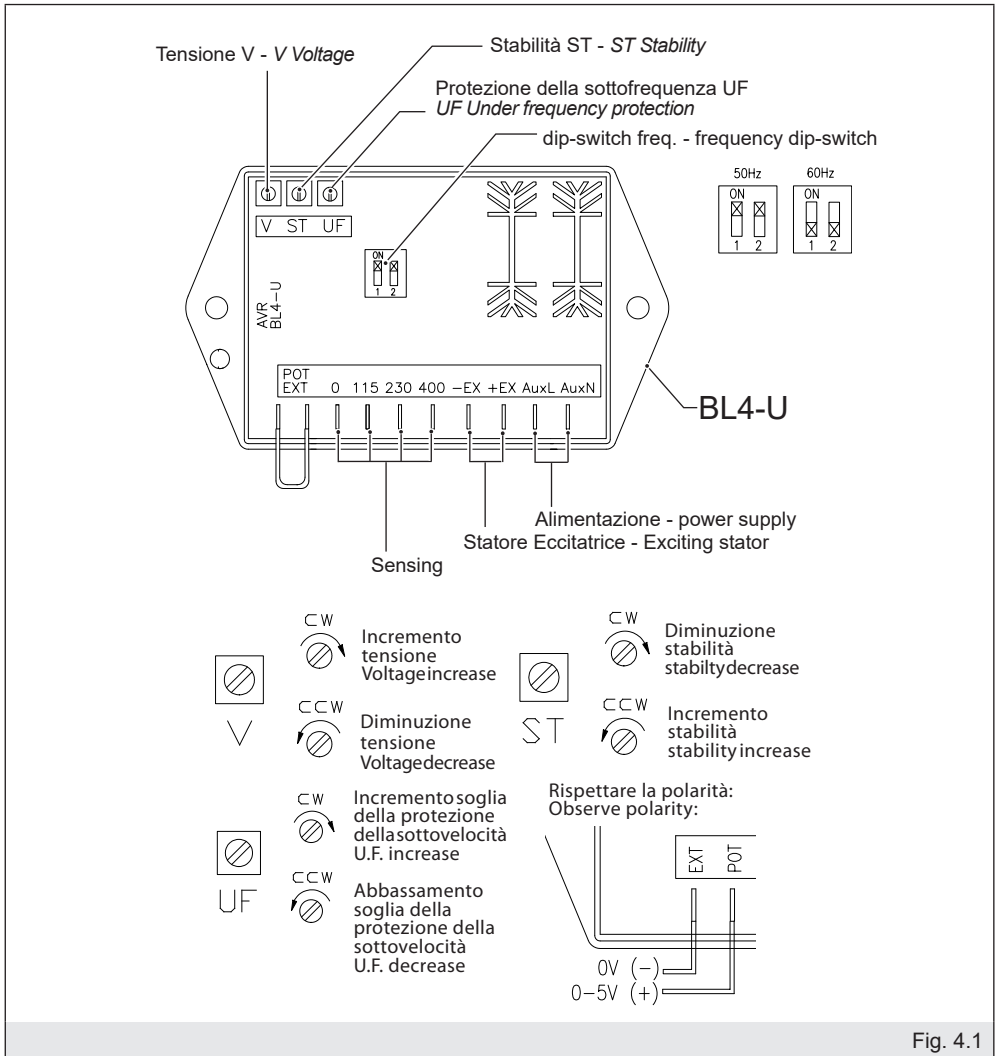

Fig. 4.1
2) Connection with controller or cosf regulator: the AVR regulator accepts voltage analogic input (0-5VDC, observe polarity shown in figure 4.1) for remote voltage adjustment. To set the system, follow this procedure: